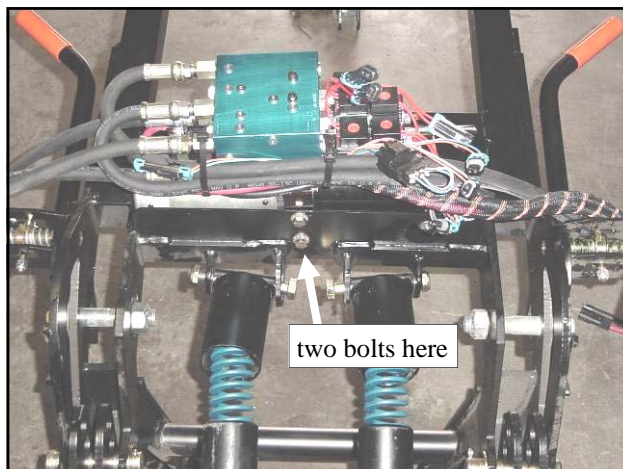

Fig. 6.1 (view taken from the front of the plow)
6.1 Per fig. 6.1, place the pump assembly on the large mounting bracket on the front of the lift frame as shown (hydraulic hoses on the passenger's side and wiring harness on the driver's side). Per figures 6.1 and 6.1.1, install the following hardware into factory installed threaded inserts (two on the bottom side and two on the back side as shown): four 3/8-24 x 3/4" long hex head bolts, four flat washers, and four star washers. Use caution to avoid cross-threading the threads in the aluminum block. Start the bolt engagement by hand. Tighten all four bolts.